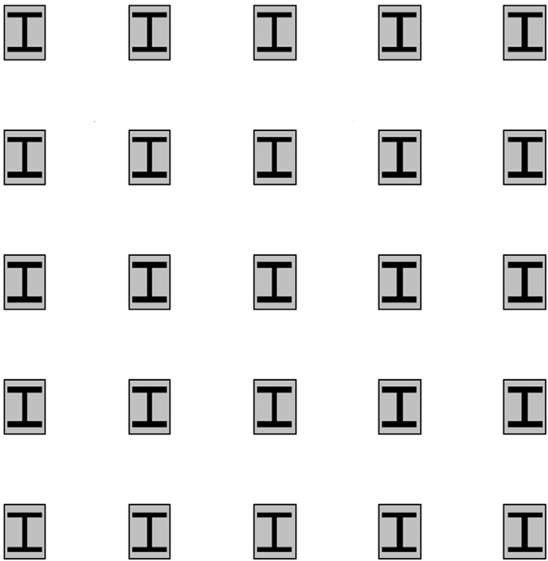

FIGURE 8.12 Rectangular array example.
The idea behind a rectangular array is not fundamentally different from a polar one. We are looking to replicate objects, but this time in rows (horizontal) and columns (vertical). In 3D, you can also do levels, which we do not address here. An example, as shown in Fig. 8.12, may be columns of a warehouse. If they are spread out evenly, then this is the perfect tool to create them. You simply draw one I-beam column, make a block out of it, and array it up and across the appropriate area.
The first thing to do is to draw a convincing-looking I-beam. Because we need actual distances, you cannot just randomly draw any object; use known sizing this time around. With one of the columns in Fig. 8.12 as a model, create a 20" wide by 26" tall rectangle. Inside of it, put an I-beam drawn with basic linework and a solid hatch fill, and shade the background a light gray (Fig. 8.13). Finally, make a block out of it. That sets up the column for an array.
Step 6. If using the command line, you just have to follow the prompts for Columns, Rows, and Spacing. Regardless of which you start with (Rows or Columns), AutoCAD asks you for the spacing as needed. Press Enter when done. Your rectangular array should look like Fig. 8.12.